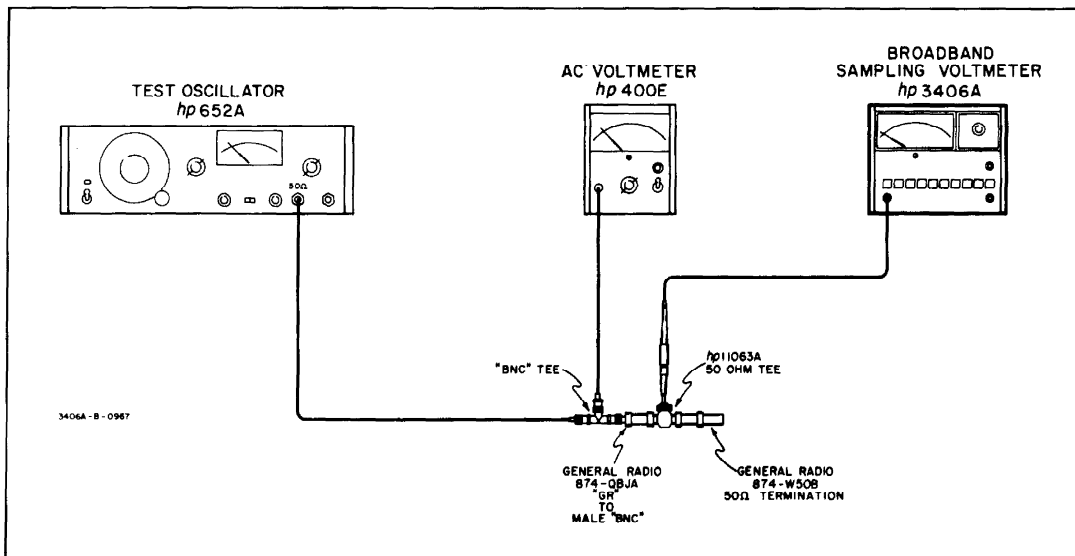

Figure 5-7. Tracking Adjustment Setup
- Connect test setup illustrated in Figure 5-7; set oscillator output frequency to 1 MHz; and output voltage for .100 V indication on ac voltmeter, using -10 dBm setting on the oscillator.
- Adjust ⑫ .1 FS (A2R95) for 3406A meter indication of 0.1 on 0 to 1 scale.
- Using oscillator attenuator increase output 10 dB; adjust ⑬ .316 FS (A2R94) for 3406A meter indication of 1 on 0 to 3 scale (which is 0.316 of FS on 0 to 1 scale).
- Using oscillator attenuator increase output 10 dB; adjust ⑭ FULL SCALE (A2R92) for 3406A meter indication of 1 on 0 to 1 scale.